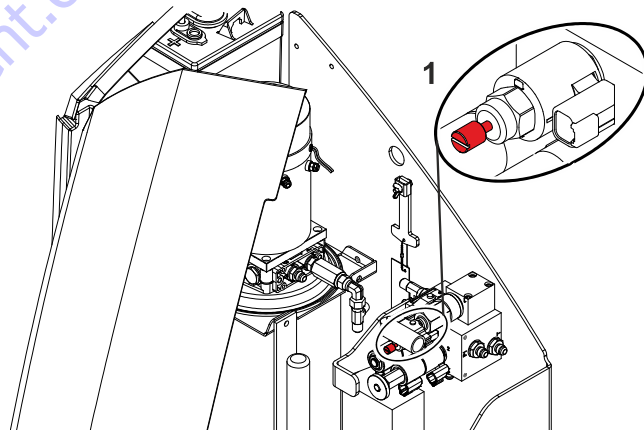

Figure 3-5. Flow Control Valve
- a flow control valve (1) located on the main control valves assembly (Refer to Figure 3-5).